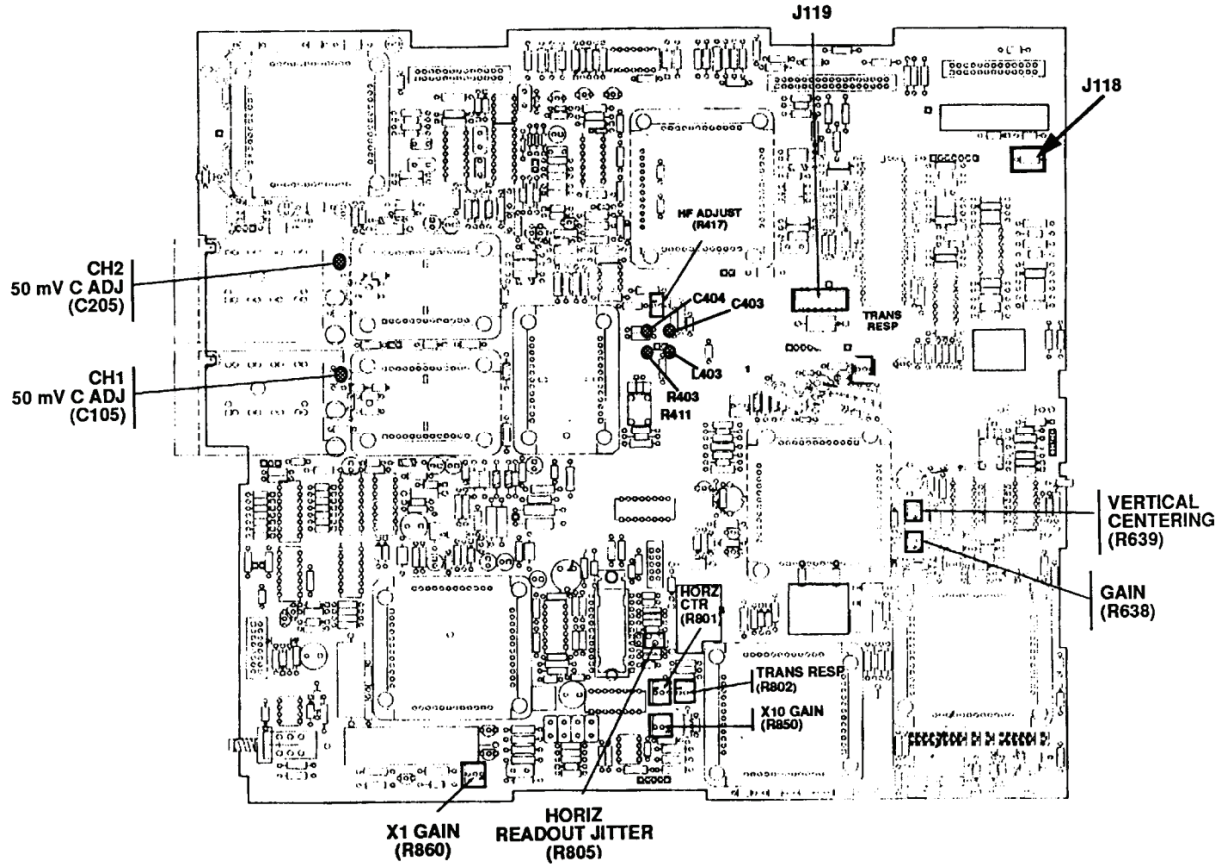
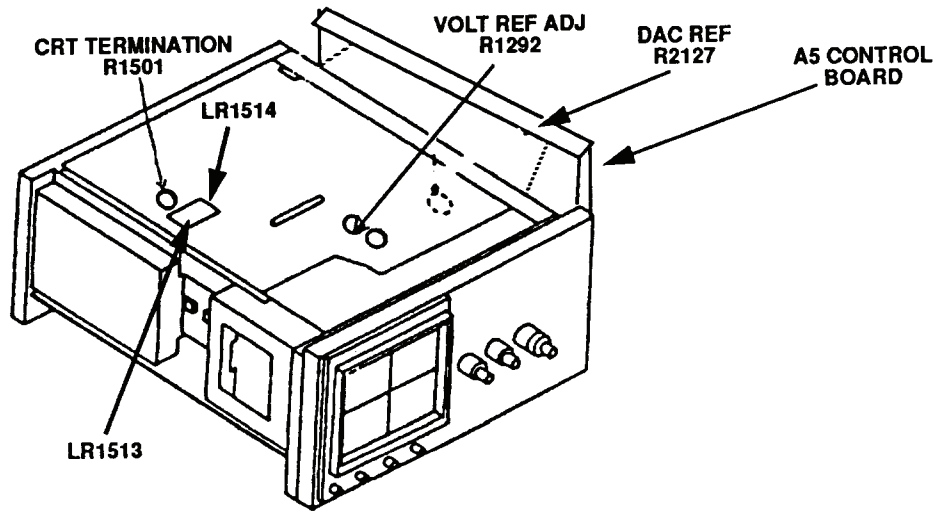

Figure 1. A1 main board - adjustment locations.
Figure 2. Adjustment locations.
- (1) Press **VERTICAL MODE** pushbutton **CH 2** to off.
- (2) Connect multimeter **LO** to chassis ground and **HI** to TI J119 (fig. 1) pin 4. If multimeter does not indicate between +9.99 and +10.01 V dc, perform **b** below.
b. Adjustments. Adjust VOLT REF ADJ R1292 (fig 2) until multimeter indicates 10.00 V DC (R).
- (1) Press **Δ t** pushbutton for a **Δ t** display on crt.
- (2) Connect multimeter **LO** to chassis ground and **HI** to J118 (fig 1) pin 2.
- (3) Rotate **Δ REF OR DLY POS** control ccw until multimeter indication remains at a constant value (approximately -1.25 V dc). Record indication.
- (4) Rotate **Δ REF OR DLY POS** control cw until multimeter indication remains at a constant value (approximately 1.25 V dc). Record indication.
- (5) Add the absolute values of indications recorded in (3) and (4) above (approximately 2.500 V).
- (6) Subtract the total in (5) above from 2.500 V, then divide the difference by two.
- (7) Adjust DAC REF R2127 (fig 2) to add the (signed) number obtained in (6) above to the reading in (4) above.
- (8) Repeat (3) through (7) above as necessary to obtain a total DAC range of 2.500 V.
- (9) Disconnect multimeter.
- (10) Press Δt pushbuttons to off (no cursor on display).
- (11) Connect oscilloscope calibrator **SOURCE/MEASURE CHAN 1** to **TI CH 1** using a 5-80 pF standardizer.
- (12) Set oscilloscope calibrator for a **CHAN 1, EDGE** mode output of **600 mV** at 1 kHz frequency.
- (13) Rotate oscilloscope calibrator knob below **EDIT** field pushbutton to adjust waveform to 6 divisions of vertical deflection on TI.
- (14) Adjust 5-80 pF standardizer for a square front corner over the first 40 μ s (0.4 division) of the positive portion of waveform. Note waveform front corner for use in (17) below.
- (15) Change oscilloscope calibrator **EDGE** mode output to **300 mV** at 1 kHz.
- (16) Set **VOLTS/DIV** switch to **50 mV** and rotate oscilloscope calibrator knob below **EDIT** field pushbutton to adjust waveform to 6 divisions of vertical deflection on TI.
- (17) Adjust CH1 50 mV C ADJ (C105) and CH2 50 mV C ADJ (C205) for CH 2 (fig 1) for same waveform front corner as noted in (14) above.
- (18) Set **VOLTS/DIV** switch to **100 mV**.
- (19) Repeat (13) through (18) above until no change is observed in the waveform front corner.
- (20) Press **VERTICAL MODE CH 1** to off and **CH 2** to on.
- (21) Repeat technique of (11) through (19) above for **CH 2**.
(24) Push up and release **TRIGGER COUPLING** switch. Display readout will indicate **X1, X10, HRZ CTR**, (step) **5, 10 μs** and two vertical cursors appears on the display.
(25) Change oscilloscope calibrator **MARKER** mode output to **10 μS/D**.
(26) If cursors are not aligned with 2^d and 10th vertical graticule lines, adjust **X1 GAIN** (R860) (fig 1), and **HORZ CTR** (R801) (fig 1) to align the two cursors with 2^d and 10th vertical graticule line (R).
(27) If TI does not display 1 time marker per division ± 1 minor division, adjust **X10 GAIN** (R850) (fig. 1) for 1 marker per division (R).
(28) Push up and release **TRIGGER COUPLING** switch. Display readout will indicate **ADJ Δ**, (step) **6, 10 ms, 100 μs**.
(29) Change oscilloscope calibrator **MARKER** mode output to **10 mS/D** and adjust **ΔREF OR DLY POS** control to intensify 2^d time marker and **Δ** control to intensify 10th time marker, and superimpose delayed B sweep time markers within .2 division.